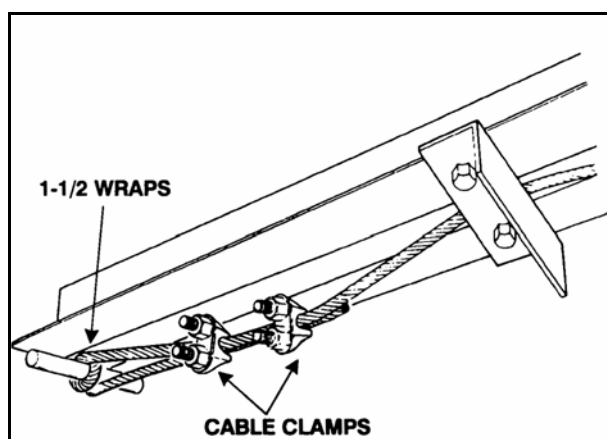

Figure 3.27
Note: On augers equipped with a lower angle-iron track stop, the cable must be threaded between track stop and auger tube to cable rests on top of the track stop (See Figure 3.27).
5. Wrap cable 1-1/2 times around the cable attach rod and secure with two 1/4" cable clamps. Position cable clamps as shown in Figure 3.27 and 3.28. Tighten clamps securely.